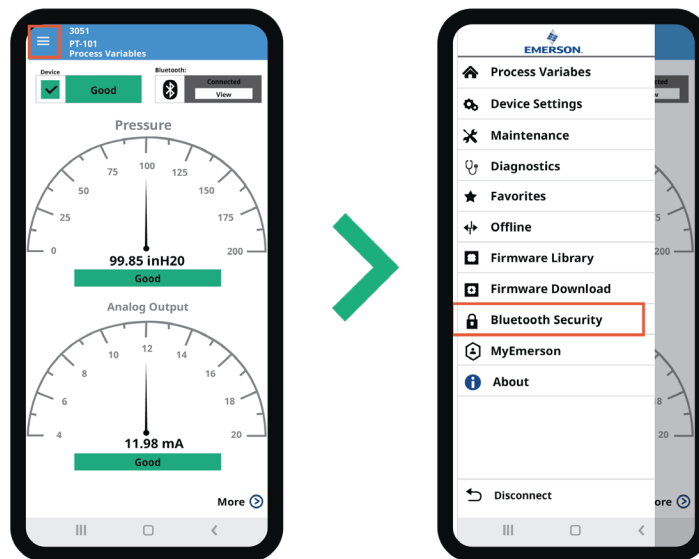

Figure 4. Bluetooth Security menu location on AMS Device Configurator for Android or iOS
- b. Select the menu icon in the top left corner to expose the Bluetooth Security Menu option (Figure 4)